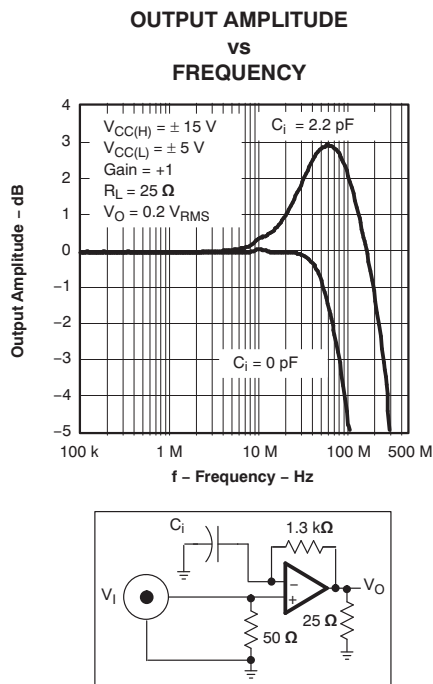
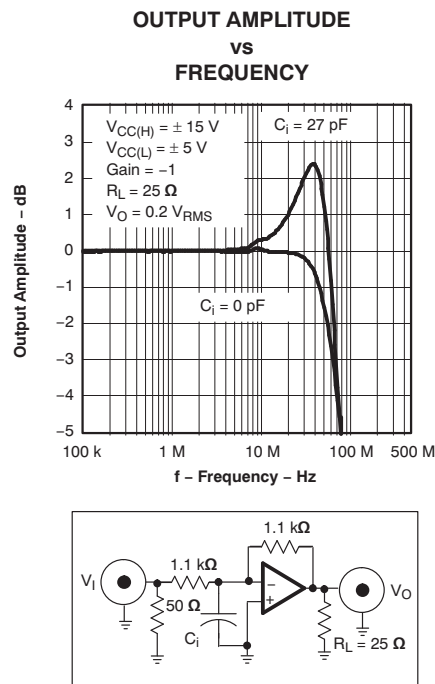

Figure 41.
Figure 42.
- **Input stray capacitance** – To minimize potential problems with amplifier oscillation, the capacitance at the inverting input of the amplifiers must be kept to a minimum. To do this, PCB trace runs to the inverting input must be as short as possible, the ground plane must be removed under any etch runs connected to the inverting input, and external components should be placed as close as possible to the inverting input. This is especially true in the noninverting configuration. An example of this can be seen in Figure 41, which shows what happens when a 2.2 pF capacitor is added to the inverting input terminal in the noninverting configuration. The bandwidth increases dramatically at the expense of peaking. This is because some of the error current is flowing through the stray capacitor instead of the inverting node of the amplifier. While the device is in the inverting mode, stray capacitance at the inverting input has a minimal effect. This is because the inverting node is at a virtual ground and the voltage does not fluctuate nearly as much as in the noninverting configuration. This can be seen in Figure 42, where a 27-pF capacitor adds only 2.5 dB of peaking. In general, as the gain of the system increases, the output peaking due to this capacitor decreases. While this can initially appear to be a faster and better system, overshoot and ringing are more likely to occur under fast transient conditions. Therefore, proper analysis of adding a capacitor to the inverting input node should always be performed to ensure stable operation.